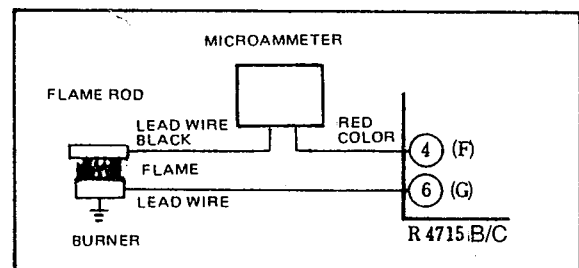

Fig. 12 Method of measuring flame current
Connect a microammeter (W136A, FSP136A or equivalent device) between terminal (F) and the flame rod, as shown in Fig. 12, then operate the burner and read off the flame current. Normally, the flame current is 2 to 6  $\mu$ A, a value of at least 2  $\mu$ A being necessary. Also, the flame current must be stable. Confirm that the meter does not fluctuate unduly. If it is not possible to obtain a stable flame current, one or more of the following are conceivable causes, hence they must be carefully checked:
- ① Power supply voltage and/or frequency is not correct.
- ② Supply gas pressure and/or air-fuel ratio is not correct.
- ③ Connection to flame rod and burner is not correct.
- ④ Flame rod improperly installed